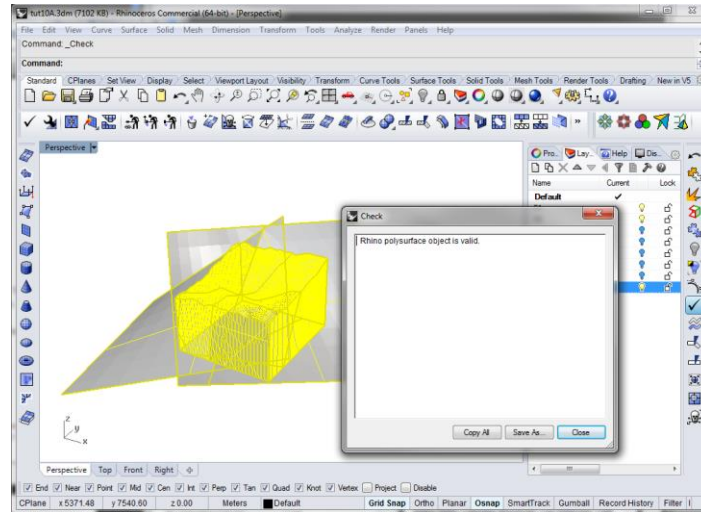

Figure 163: Check after tetExtendSlits is run.
3. Select the non-manifold Polysurface and type **_testExtendSlits** in the command line. This will yield a valid non-manifold Polysurface. **_Check** to verify that it is indeed valid (Figure 163).